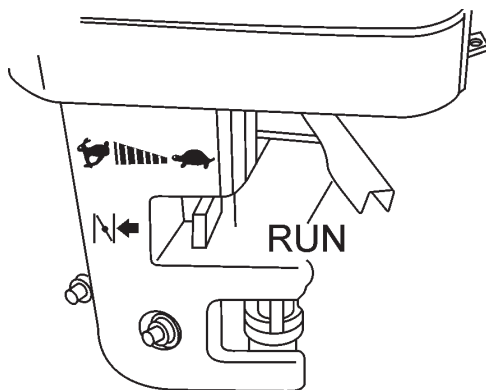

Figure 18. Throttle Lever (Run)
- To begin pumping, place the throttle lever (Figure 18) in the "RUN" position.